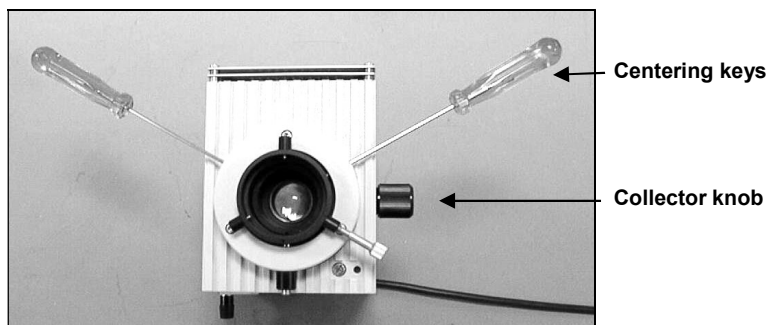
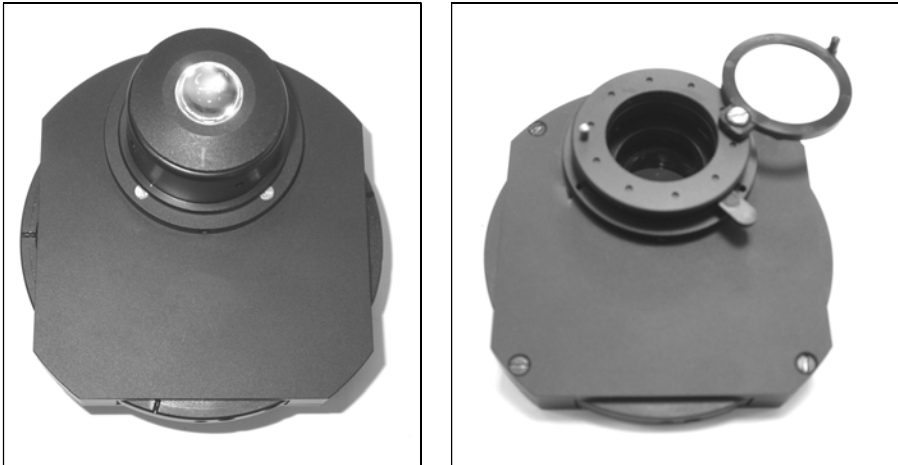

Fig. 14: Centering the light exit aperture lens.
Fig. 24: Large combination condenser. Left: top view, right: bottom view, with filter holder and aperture diaphragm lever in fully opened position.
- Insert the centering keys into the centering screws of the lens at the light exit aperture (Fig. 14).
- Focus the filament image (bright spot) with the collector knob (see Fig. 14).
With an annular diaphragm mounted in the filter holder, phase contrast can only be realized for one objective magnification, usually for the 40x objective. Should it be necessary to employ several contrasting techniques in one microscope on a regular base, a combination condenser is advisable (Fig. 14). The 'small' combination condenser (Fig. 23) contains a turret with three apertures, the 'large' combination condenser (Fig. 24) a turret with five apertures. One aperture always remains open for brightfield microscopy. The combination condenser is available with NA 0.9 and NA 1.25. Table 1 shows the possible combinations. The turret is marked with colored spots around its perimeter. Their colors indicate the contrasting technique and are identical with the color rings of the corresponding objectives (Tab. 2).